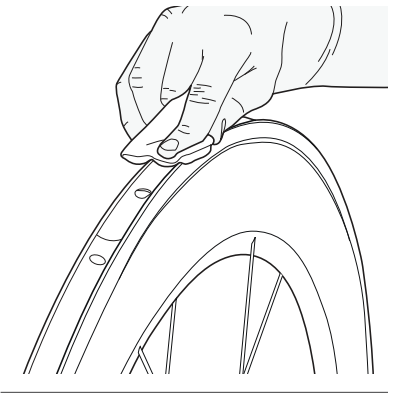

Figure 21. Wipe the sanded area of the rim with a clean rag and a small amount of acetone and prepare it for glue.
5. Apply a small amount of acetone to a clean rag (Figure 21).